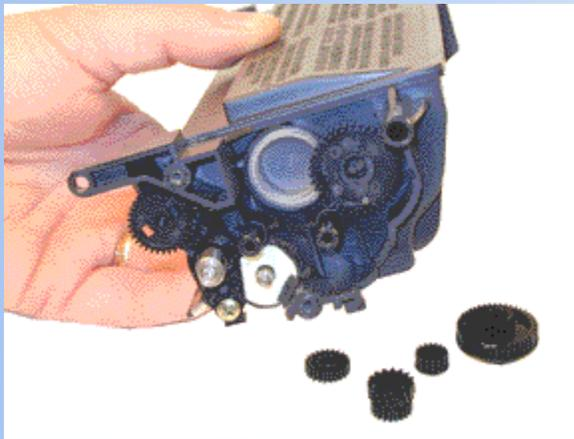

FIGURE 20
14. Remove the four loose gears from the hopper. See Figure 20